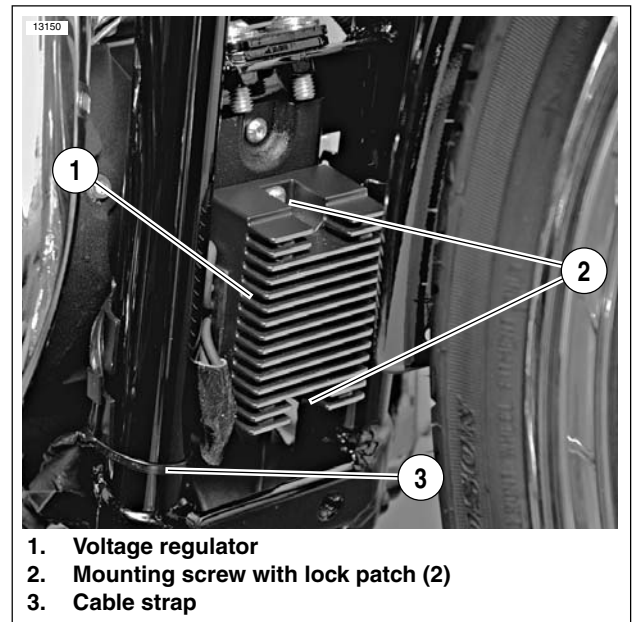

Figure 4. Mount Voltage Regulator
7. See Figure 4. Mount voltage regulator (1) onto repositioning bracket with remaining two **new** screws (2) from recall kit. Tighten screws to 30-60 **in-lbs** (3.4-6.8 Nm).
8. Locate cable strap in recall kit. Wrap cable strap (3) around stator harness, neutral switch wire and vehicle frame. Tighten cable strap securely. Cut off excess strap material.